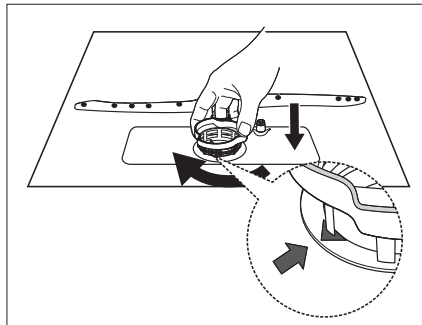

Fig. 21
- ▶ Proceed in the reverse order to refit the filter system. (see **Fig. 21**)